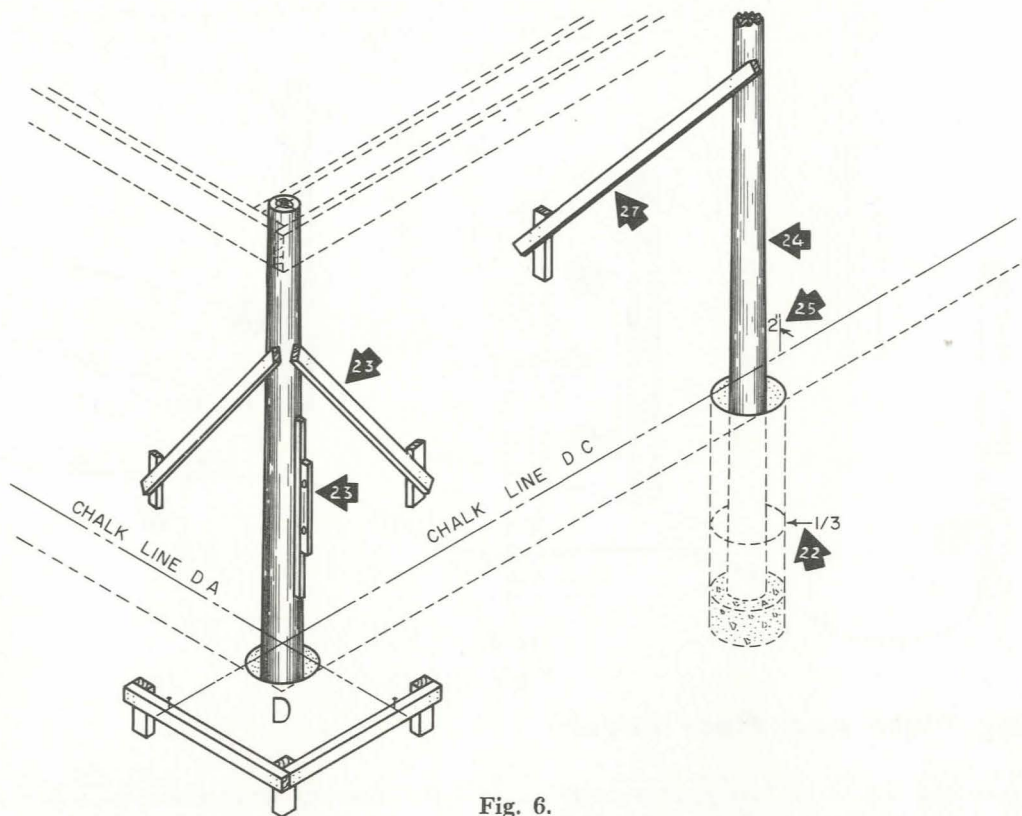

Fig. 6.
20. Select four straight poles for the corners (see Fig. 6).